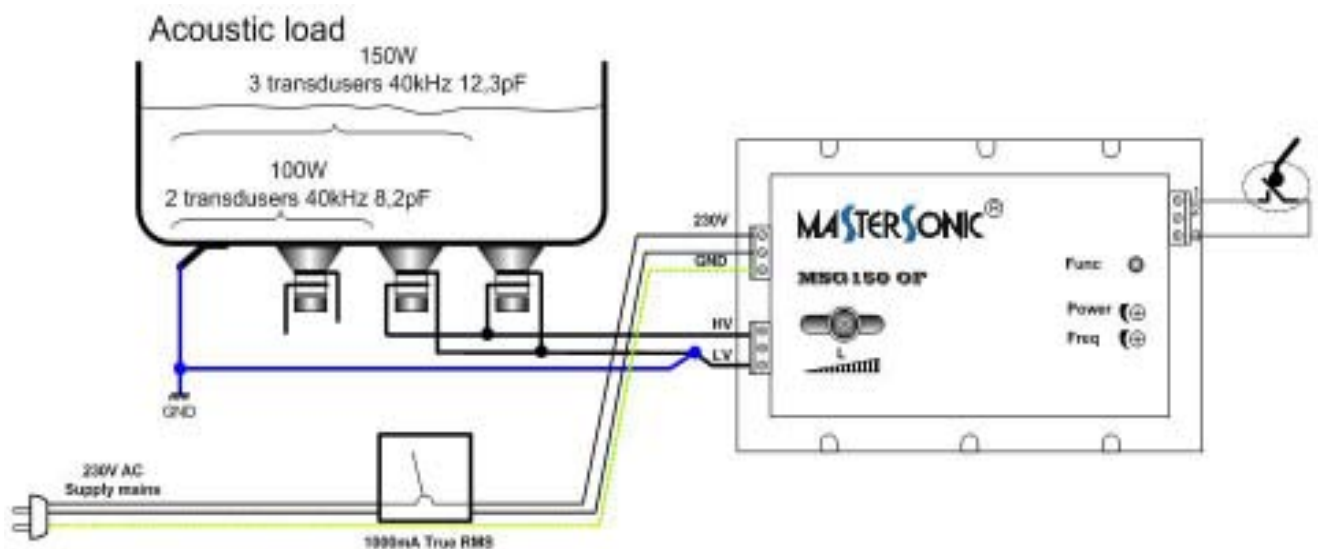

fig.12
5. Connect the acoustic load to the generator output, as shown on fig.12.
6. Connect the power supply via a mili-ammeter with possibility to measure 1000 mA True RMS current, as shown on fig.12.